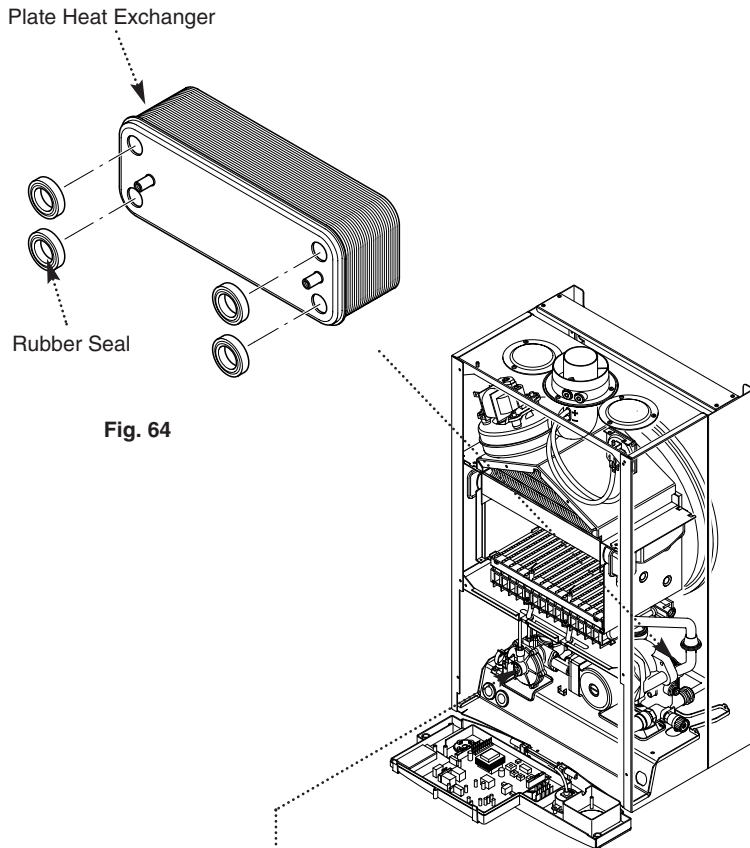

Fig. 64
12.21 Plate Heat Exchanger (Fig. 64)